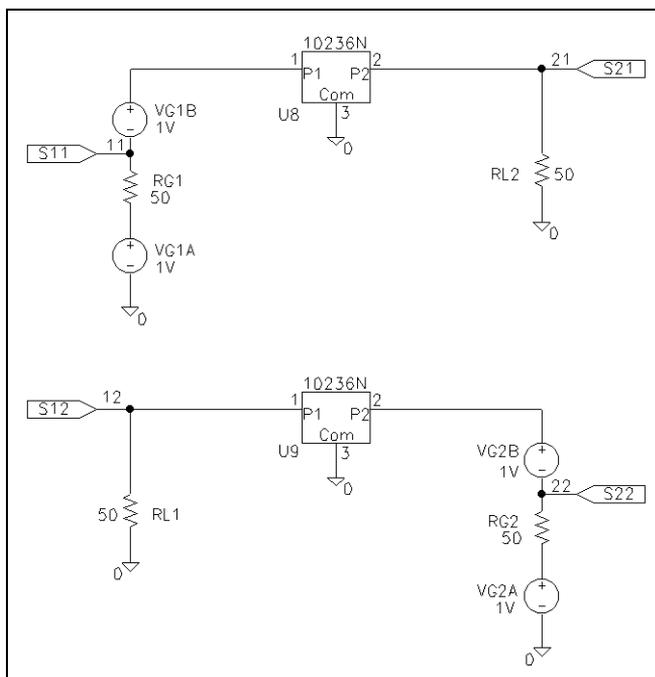

Figure 25 Schematic setups for evaluating the S -parameters of the 10236N.
- 1 Within the Symbol Editor, create a 10236N symbol similar to that shown in Figure 25. This symbol will represent the circuitry shown within the dashed lines of Figure 25.
- 5 Place VSRC (or VAC voltage source), GLOBAL (global port), R (resistor), AGND (analog ground), and 10236N symbols to create the test schematic shown in Figure 25 on page -65. Define the voltage sources so that AC magnitude equals 1; define the resistors equal to 50 ohms.